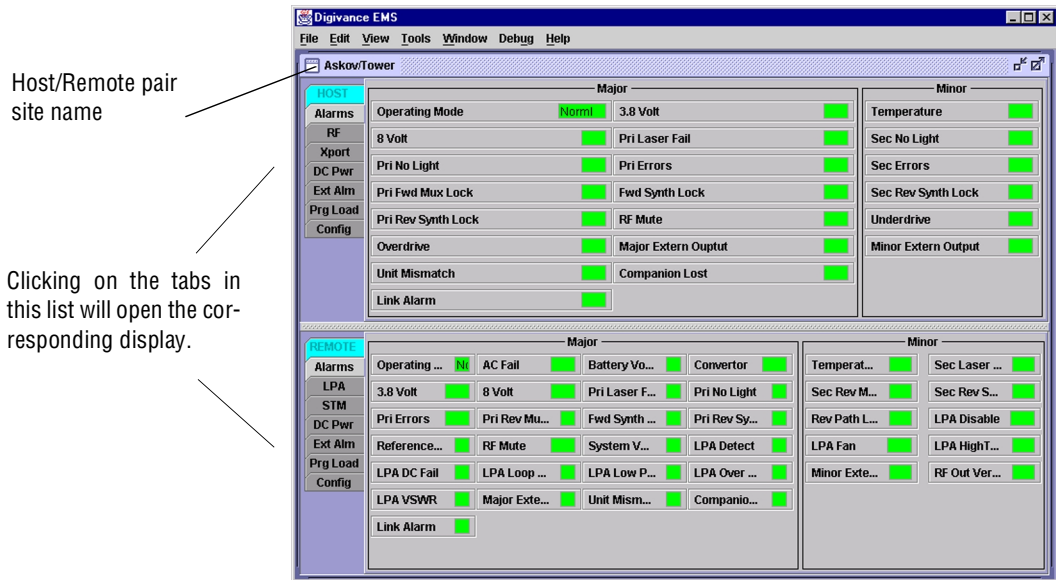

Figure 4-2. Selecting Display Tabs
9. Open the **View** drop down menu and connect to the Host and Remote pair by selecting “NotNamed/NotNamed”. The HOST **Alarms** display and the REMOTE **Alarms** display will open within the main window as shown in Figure 4-2.
11. Click on the **HOST Config** tab and on the **REMOTE Config** tab (see Figure 4-2). The **HOST Config** display and the **REMOTE Config** display will open within the main window.
15. Click on the **HOST RF** tab (see Figure 4-2). The **HOST RF** display will open within the main window.
18. Click on the **REMOTE LPA** tab (see Figure 4-2). The **REMOTE PA** display will open within the main window.
22. Click on the **HOST RF** tab (see Figure 4-2). The **HOST RF** display will open within the main window.